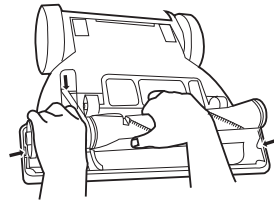

Fig. 27
- Slip the brushroll into the belt and reassemble. (Fig. 27)